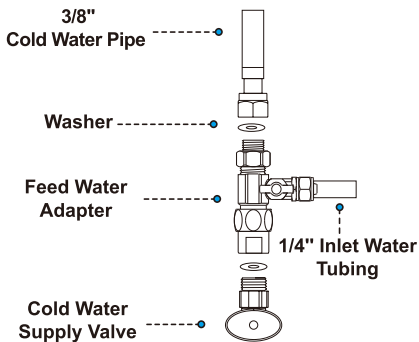

Figure 4
4. Twist the feed water adapter onto the cold water supply valve (with its washer) and tighten it with an adjustable wrench (Figure 4); **NOTE:** If the cold water pipe is 1/2", unscrew the two converters from the feed water adapter (Figure 5), and then implement step 3.